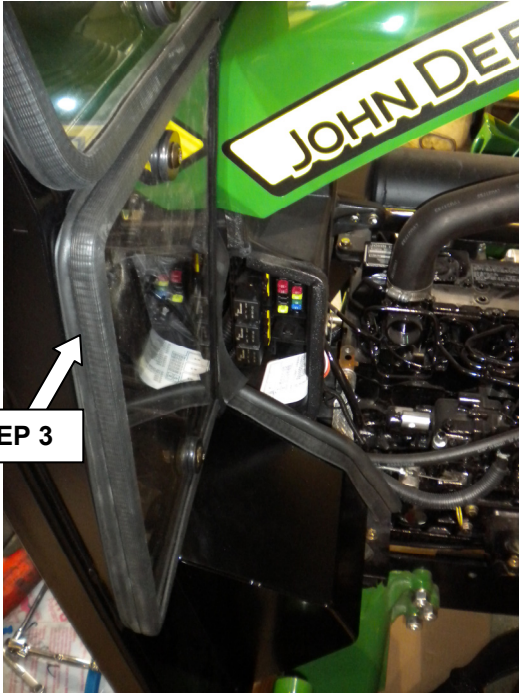

Figure 2A
3. Remove lower RH front window from cab (**Figure 2A**) and remove seals from window.